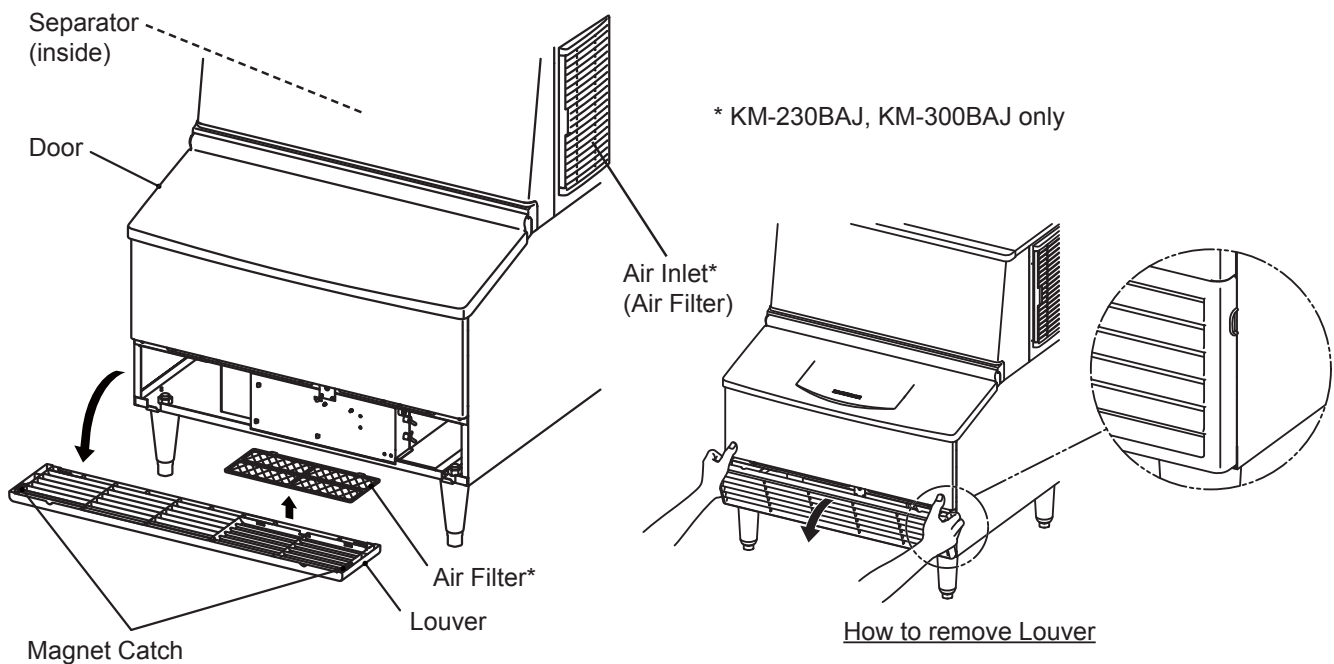

Fig. 1
- Remove the shipping tape holding the door and separator. See Fig. 1.
C. How to Remove Louver - See Fig. 1